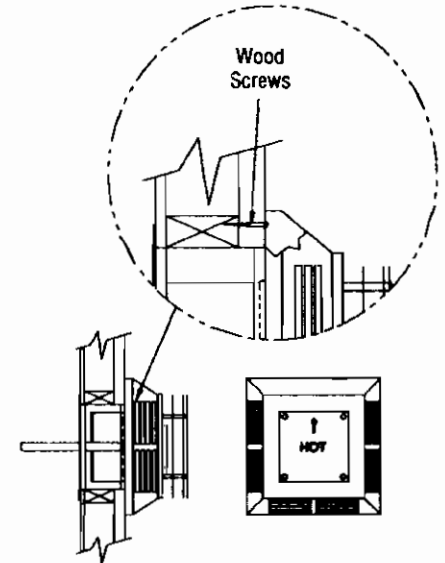

Figure 18
D. Position the horizontal vent termination into the wall thimble, and attach to the exterior wall with the four wood screws provided. Before attaching the Vent Termination Dura Vent Part No. 984, to the exterior wall, run a bead of non-hardening mastic around its outside edges, so as to make a seal between it and the wall. The arrow on the vent cap should be pointing up. Insure that proper clearances to combustible materials are maintained (Figure 18).